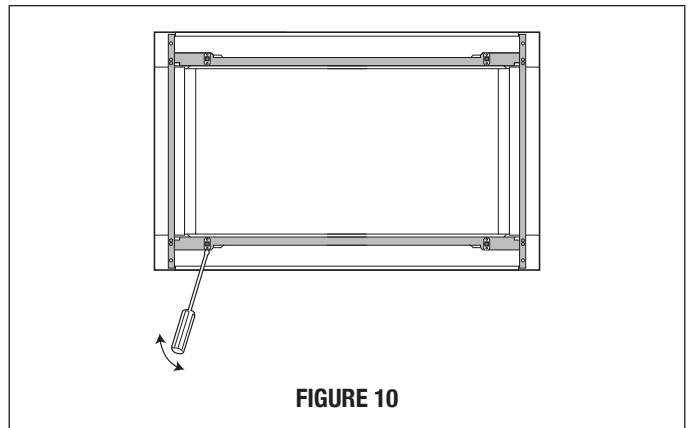

FIGURE 10
- C. **DISASSEMBLY:** The FRONT FRAME and BACK FRAME come pre-assembled with ball studs engaged in the receivers. Separate the FRONT FRAME from the BACK FRAME. Place the assembly facedown onto a protected surface. At the location of the ball stud, insert a flathead screwdriver between the FRONT FRAME and the BACK FRAME and gently pry up to disengage the ball stud from the receiver. Repeat for each corner. See Figure 10.